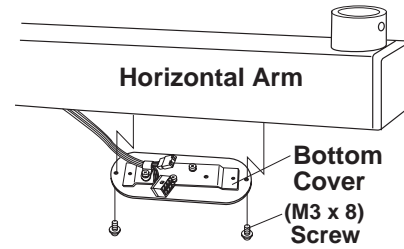

Fig.3-10 Horizontal Arm Bottom Cover
2. Remove two (M3 x 8mm) screws from the underside of the horizontal arm to open the bottom cover. (**Fig.3-10**)